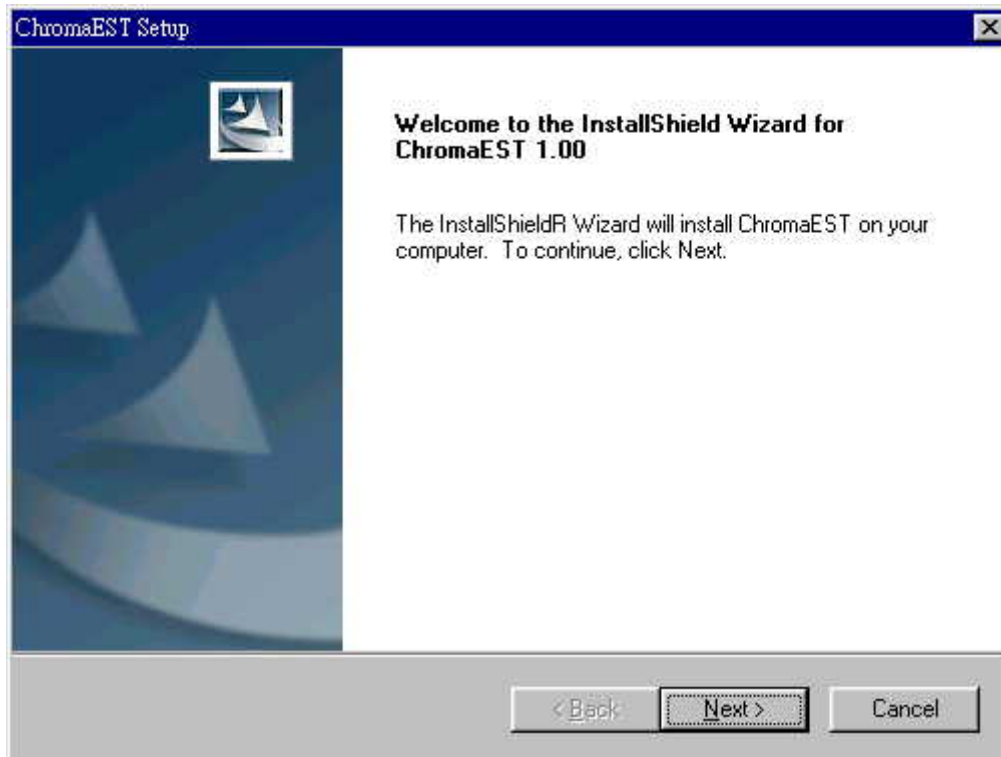

Figure 2-2 Chroma EST Setup Screen 1
1. First of all, please click "Install Chroma EST Software" then enter Chroma EST main installation program (Figure 2-2).